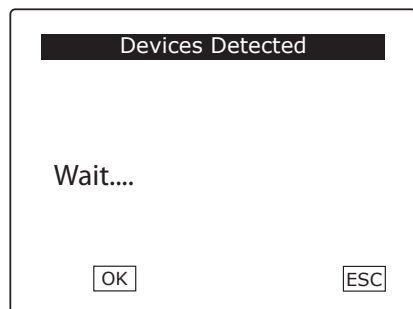
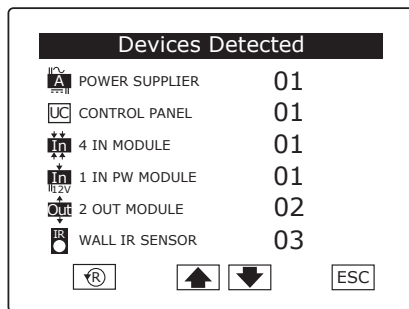

Fig. 5
Fig. 6
- At this stage, the terminal will automatically display the device recognition menu (figure 5) and will proceed with detecting devices (figure 6).